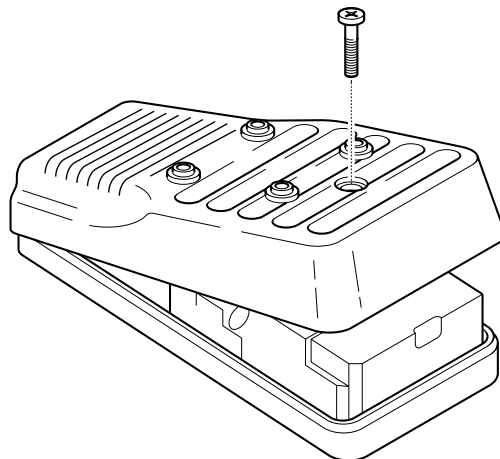

Figure 19: handsfree cover removal
2. Figure 19 Remove the front cover from the handsfree assembly by removing the cover securing screws and disconnecting the speaker leads from the handsfree C